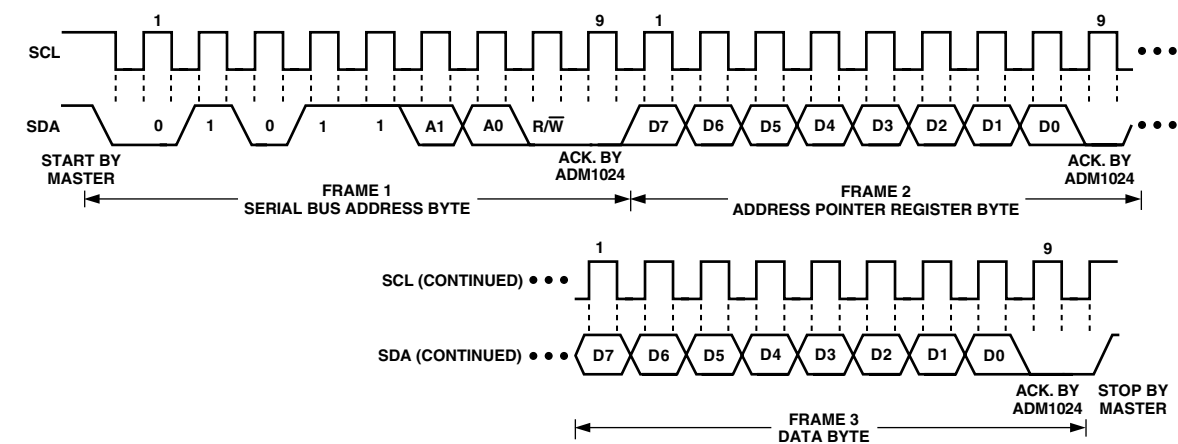

Figure 2a. Writing a Register Address to the Address Pointer Register, then Writing Data to the Selected Register
selected by the Address Pointer Register. This is illustrated in Figure 2a. The device address is sent over the bus followed by  $R/\overline{W}$  set to 0. This is followed by two data bytes. The first data byte is the address of the internal data register to be written to, which is stored in the Address Pointer Register. The second data byte is the data to be written to the internal data register.
2. In Figures 2a to 2c, the serial bus address is shown as the default value 01011(A1)(A0), where A1 and A0 are set by the three-state ADD pin.